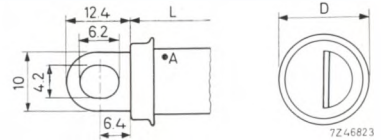

Fig. 2
- (b) with connecting lugs (fig. 2); the dimensions below those lines pertain to this type.